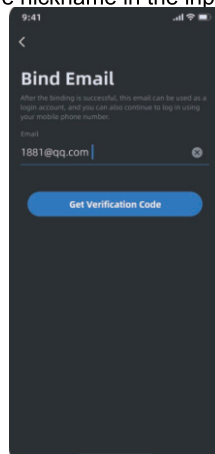

Figure 4
4) Figure 4: When the email/phone number is not bound, enter the email/phone number and click "**Get Verification Code**" to enter the verification code input page.